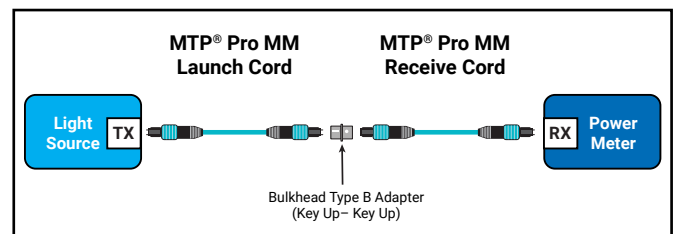

Figure 9b: Verify the receive cord
7. Connect the receive cord between the power meter and launch cord using the test adapter (see Figure 9b).